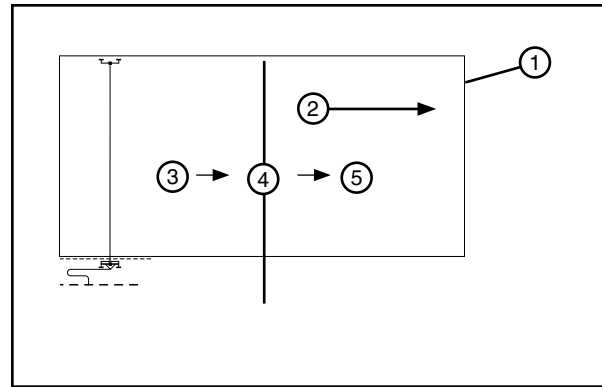

Figure 33-1 1. Field 2. Direction of Travel 3. Wet 4. Stop 5. Dry
1. The percentage timer is set at the desired application rate and the system is started at one end of the field and run wet (irrigating) to the middle of the field. See figure 33-1.
2. The system is stopped, the percentage timer is set to 100% and the system is run dry to the other end of the field. See figure 33-1.